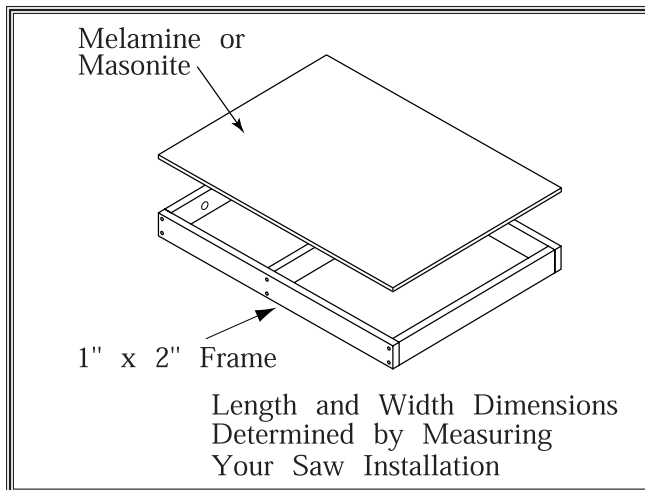

Figure 6. Extension table.
4. Position the legs as shown in **Figure 6** and insert two 1/4-20 x 1/2" hex bolts with washers through each rail and loosely thread them into the legs.
1. Construct the extension table as shown in **Figure 6** using a frame with a separate top or a solid table can be made from countertop materials with a 3/4" to 1" thick particle board surfaced with a Melamine® or Formica® type of material.